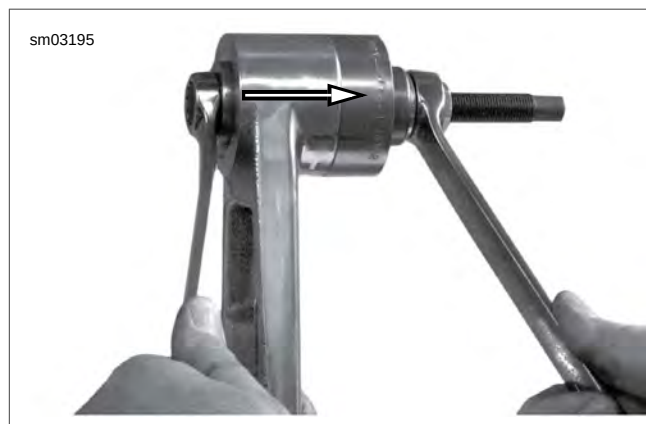

Figure 2-133. Remove Right Side Bushing (typical)
1. See Figure 2-133. Position removal cup against outer right arm of rear fork with cupped side facing rear fork.